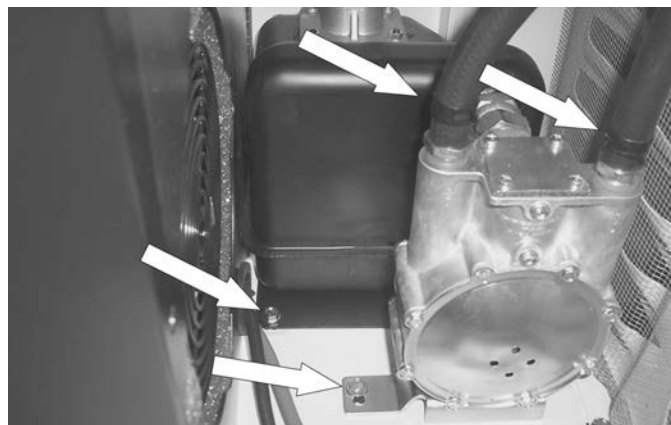

Figure 6-9.
10. **Remove fuel regulator:** See Figure 6-9. Remove the two fuel hoses at the top of the regulator. Use a 10mm socket to remove one 10mm bolt from the base of the plenum and one 10mm bolt from the base of the fuel regulator. Flex the enclosure side out to allow for room to remove the regulator assembly.